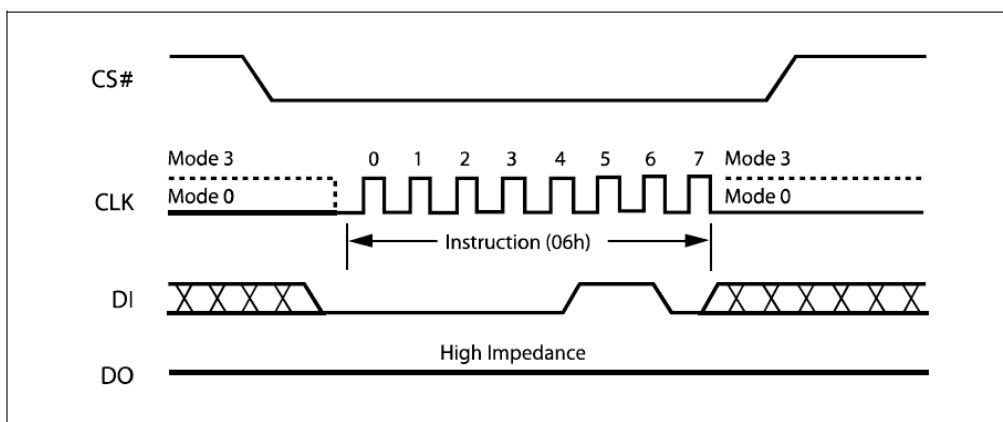

Figure 8. Write Enable Instruction Sequence Diagram
The Write Enable (WREN) instruction (Figure 8) sets the Write Enable Latch (WEL) bit. The Write Enable Latch (WEL) bit must be set prior to every Page Program (PP), Quad Input Page Program (QPP), Sector Erase (SE), Half Block Erase (HBE), Block Erase (BE), Chip Erase (CE), Write Status Register (WRSR) and Write Status Register 4 (WRSR4) instruction.